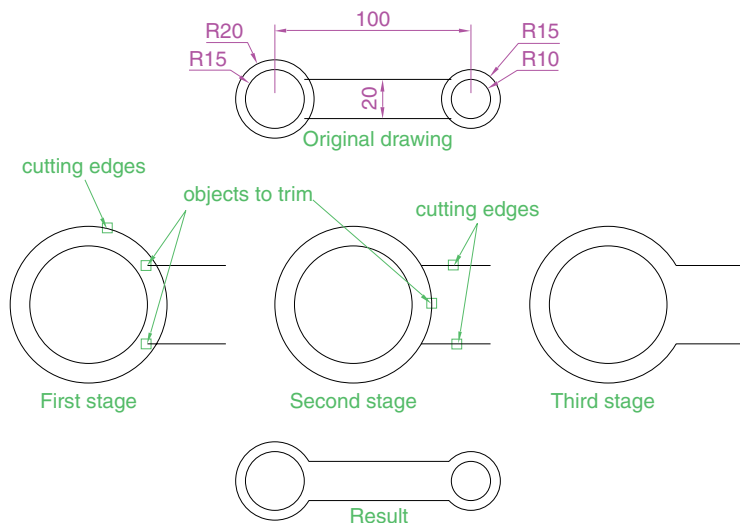

Fig. 5.31 First example – **Trim**
First example – Trim (Fig. 5.31)
1. Construct the drawing **Original drawing** in Fig. 5.31.
3. This completes the **First stage** as shown in Fig. 5.31. Repeat the **Trim** sequence for the **Second stage**.
4. The **Third stage** drawing of Fig. 5.31 shows the result of the trims at the left-hand end of the drawing.
- Repeat for the right-hand end. The final result is shown in the drawing labelled **Result** in Fig. 5.31.